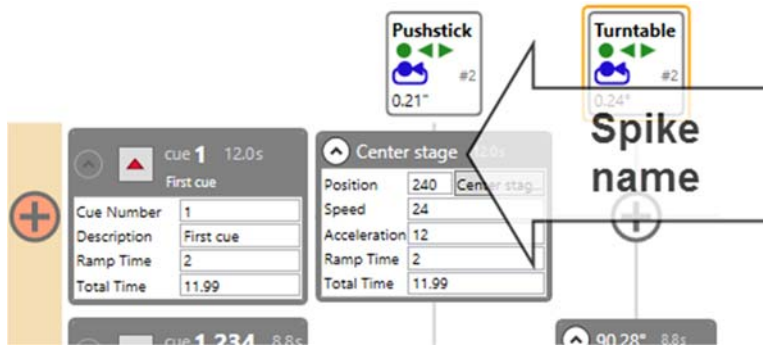

Figure 54
5. Press **OK** (Figure 54).
6. Notice that the *Pushstick Movement* for *Cue 1* shows the *Center Stage Spike* name for the target position (Figure 54).